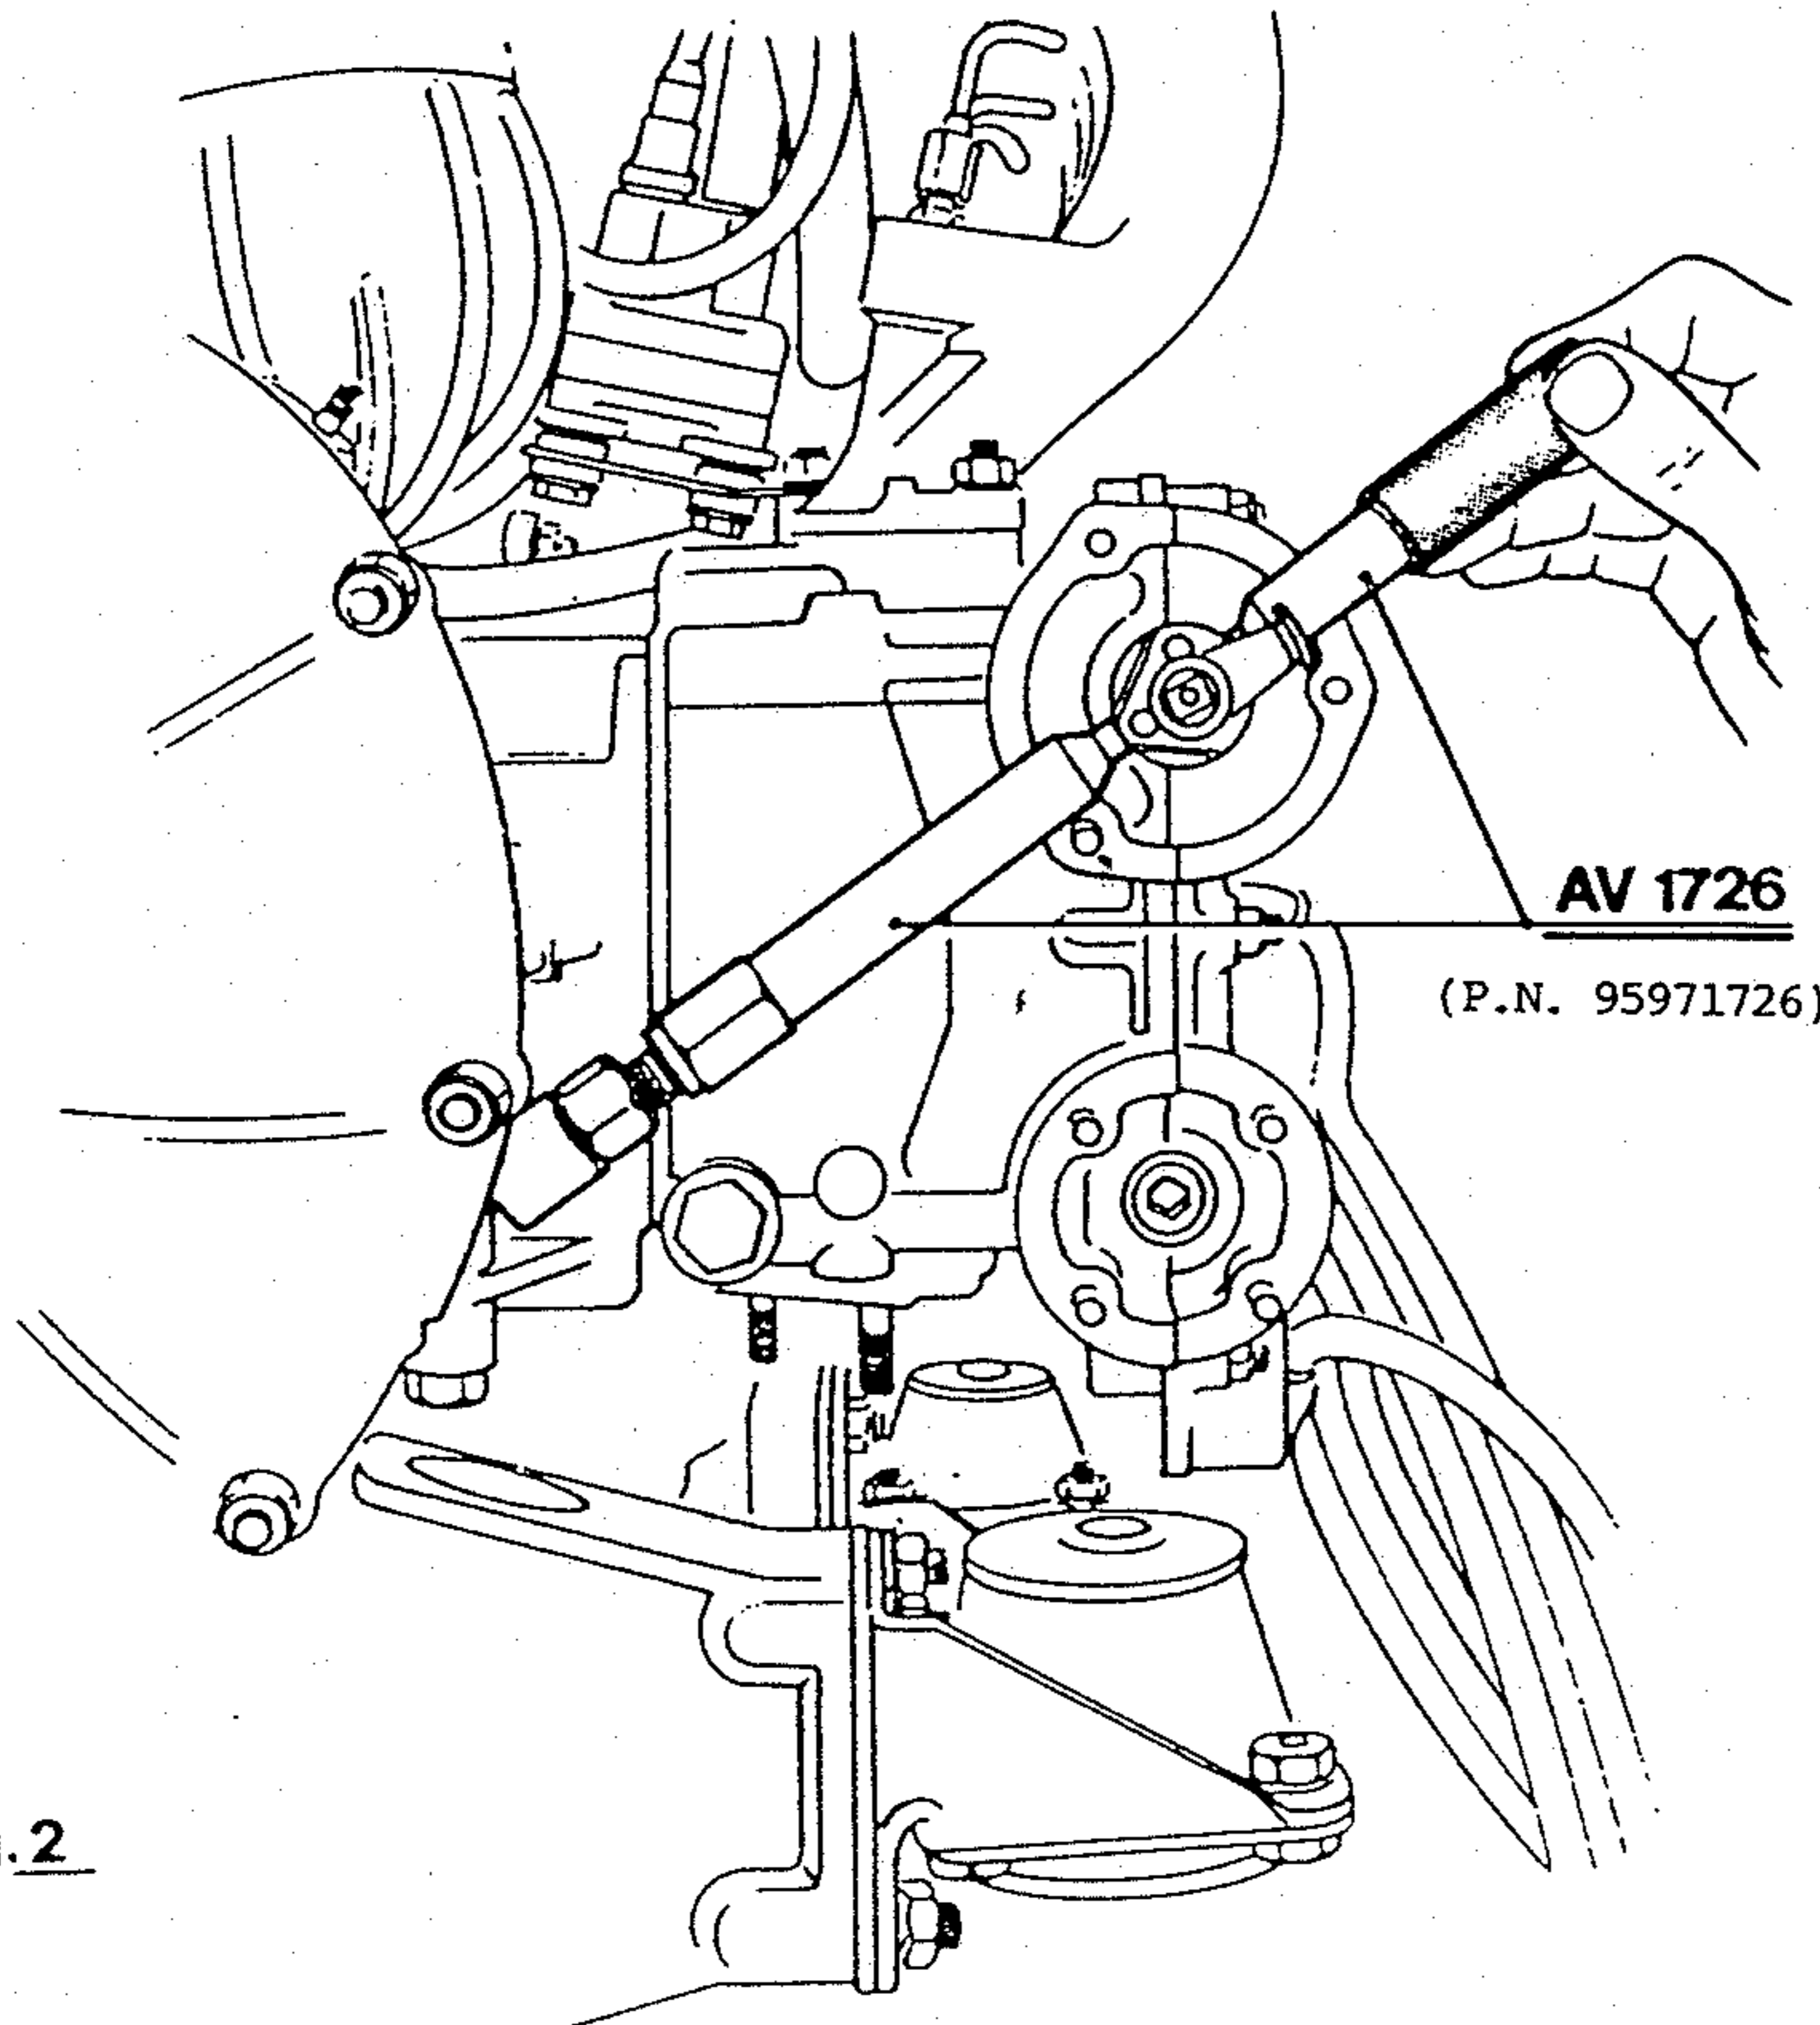

Fig.2
- With an aluminum punch, push down the pin, then hold it in position with the special tool AV 1726 and caulk one side with the special punch (Fig. 2). Rotate for 180° the camshaft and repeat the prior operation in order to caulk also the other side of the pin.